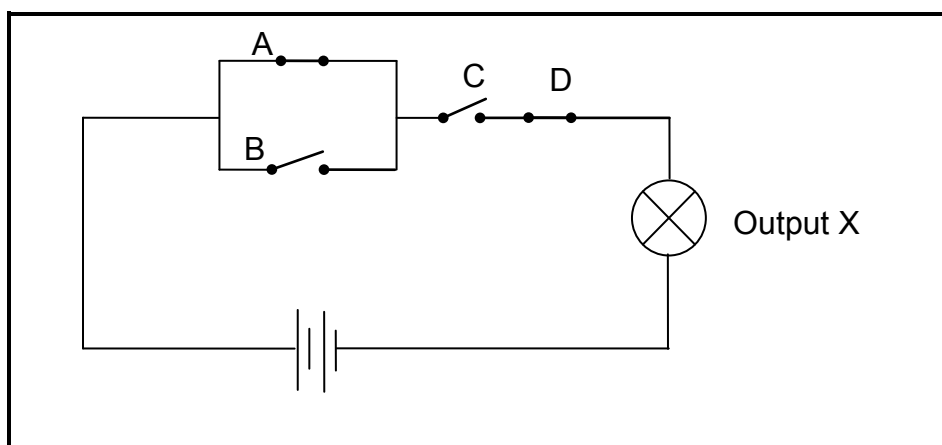

FIGURE 6.1: CIRCUIT DIAGRAM
6.2 Refer to the circuit in FIGURE 6.1.
6.2.1 Write down the equivalent Boolean equation for the circuit in FIGURE 6.1. (5)
6.2.2 Design an equivalent ladder diagram of the circuit in FIGURE 6.1. (5)